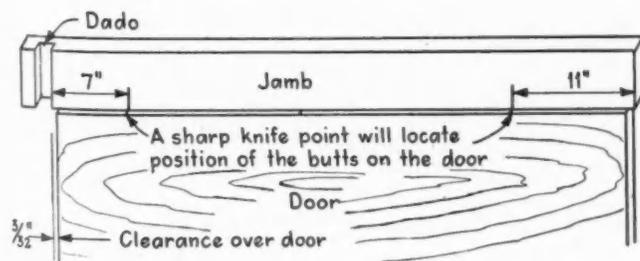

Fig. 2
5. Lay out the location of the butts on the jamb first. Then by laying the edge of the jamb on the edge of the door, allowing  $\frac{3}{32}$ " for clearance on top, transfer the hinge location to the door edge by a sharp knife mark. See fig. 2.